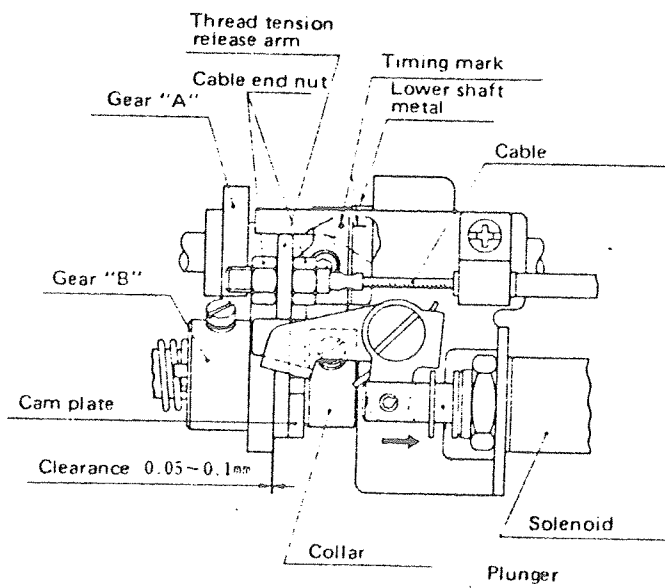
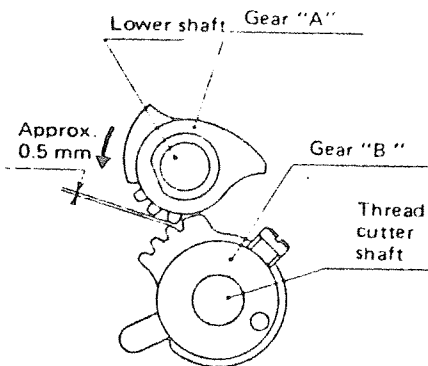

Fig. 15
Fig. 17
The needle thread tension discs, synchronized with thread trimming mechanism to remove the tension of upper thread, must start opening when the thread tension release arm moves extremely left-hand as shown in Fig. 15.
- (a) Solenoid plunger as illustrated in Fig. 15 must actuate freely for maximum travels by manual operation when needle is reaching almost the highest position.
- (b) Solenoid plunger must return to the original position by spring tension freely when pressed it manually toward an arrow direction and released, as shown in Fig. 15.
Press solenoid plunger toward an arrow direction (Fig. 15), while handwheel is turning toward you until cam plate contacts gear "A", so that gear "B" moves left-hand to mesh gear "A". The meshing clearance between gears "A" and "B" must be at 0.5 mm as shown in Fig. 17.
(b) When sewing machine torque becomes abnormally heavy at the meshing of gears "A" and "B" or do not mesh each other, contact catcher-holder to the stopper and loosen cutter lever mounting screw to re-position gear "B" to obtain the correct clearance 0.5 mm as shown in Fig. 17. Re-tighten cutter lever mounting screw.
(3) Adjustment of thread cutter shaft collar (Fig. 15)
CHECK: Thread cutter solenoid must return to the original position, when pressed toward an arrow direction and released (Fig. 15).